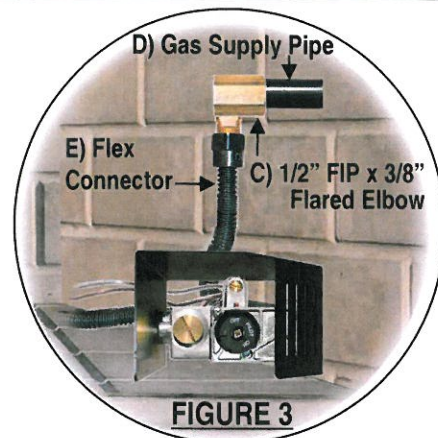
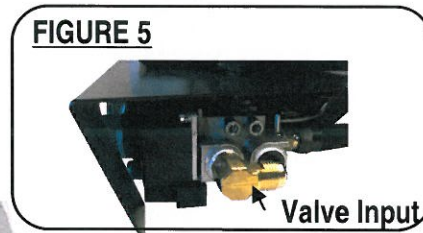

FIGURE 3
FIGURE 5
2. The **"EASY" Safety Valve** should be placed as far forward and to the side of the burner pan as possible (Figure 4B). It may also be placed Open face side down (Figure 3, right)
2. Thread **1/2" FIP x 3/8" Flared Elbow** (Figures 3 and 4C) onto the **Gas Supply Pipe** (B) and wrench tighten.
3. Thread one end of the supplied **Flex Connector** (Figures 3 and 4E) to the **Valve Input** (Figure 5), then connect the other end to the 1/2" FIP x 3/8" Flared Elbow attached to the Gas Supply Pipe. If Flex Connector is bent into too small a radius it may kink or break causing